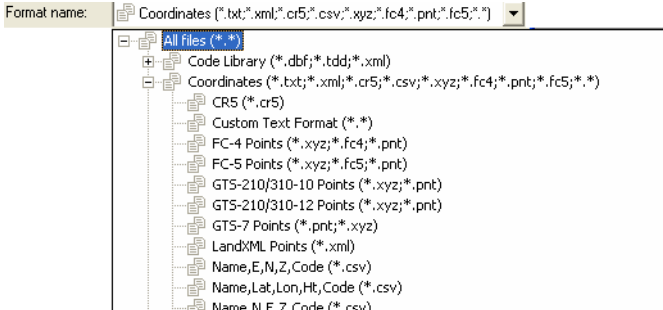

Figure 3-11. Coordinate File Formats
- The file format (Figure 3-11).